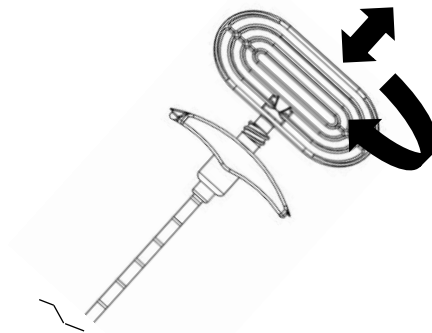

Figure 12 - Inserting and Removing the Tip
- 2 Under fluoroscopic guidance, rotate the hand drill clockwise and advance the tip of the hand drill into the cancellous bone of the vertebral body (Figure 12). When the tip of the hand drill has reached the handle of the feeder, remove it from the feeder.